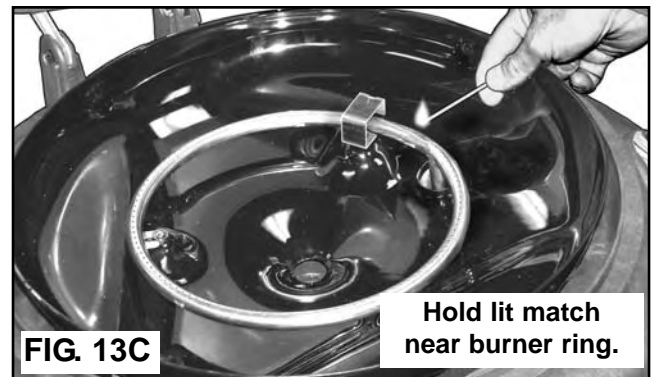

FIG. 13C
3. Hold a lit match near the burner ring. (FIG. 13C)